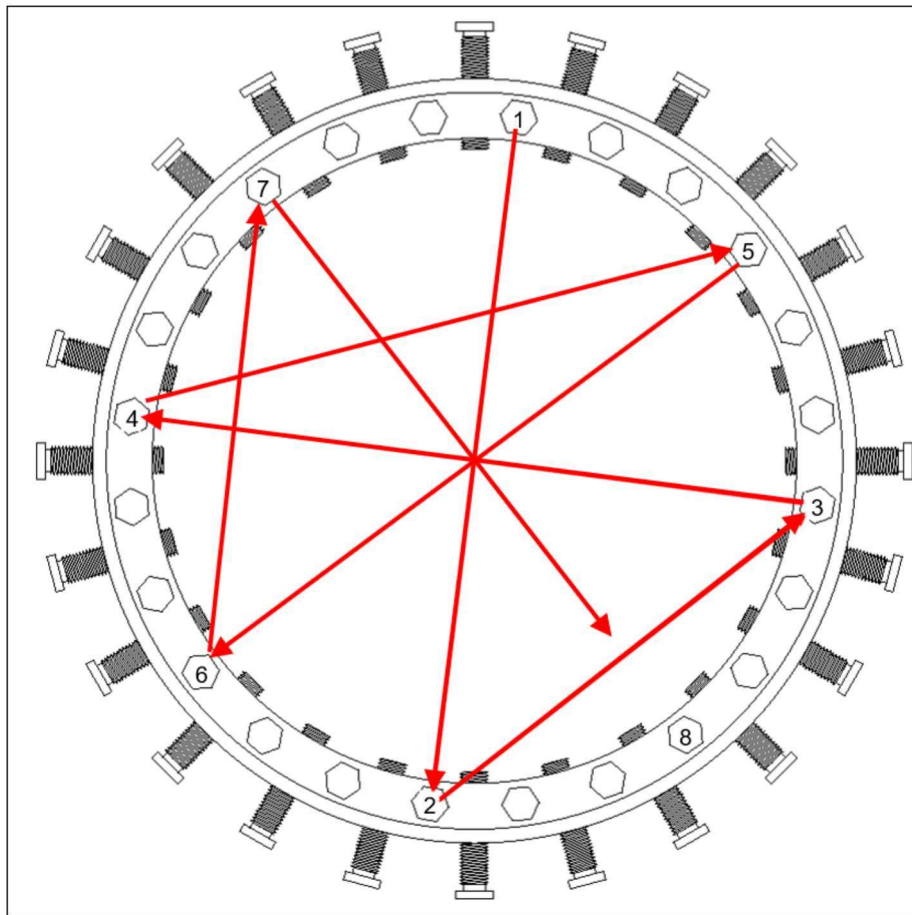
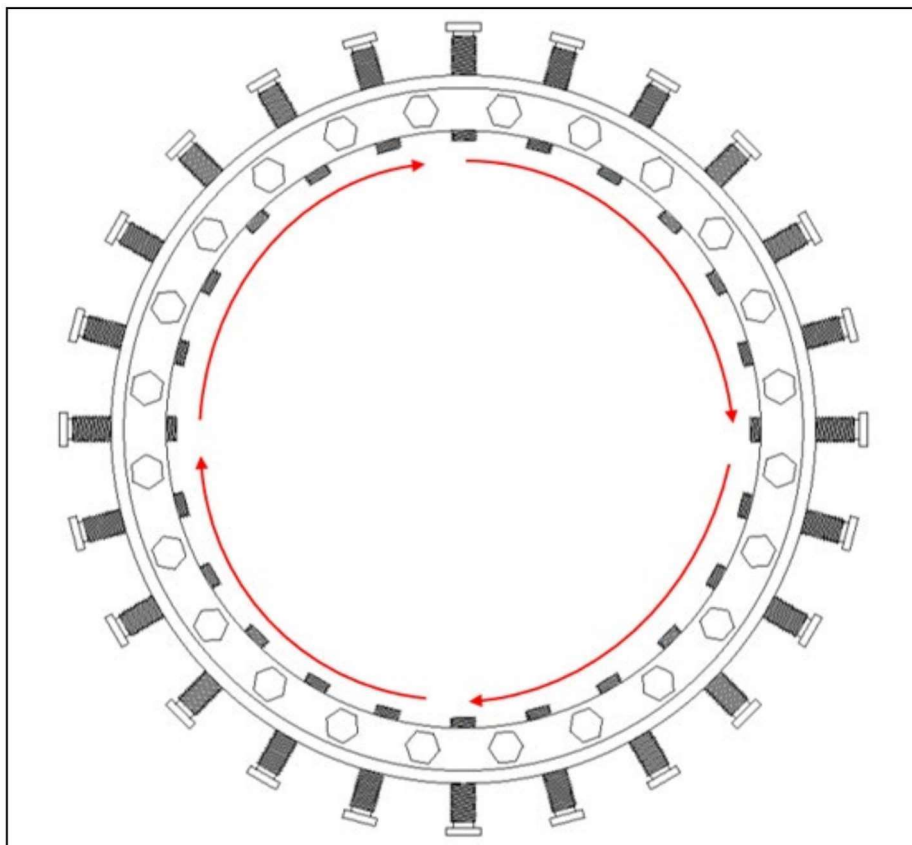

Figure 5
Figure 6
10. Torque the thrust screws one at a time in a repeated crisscrossed star sequence that matches Figure 5. The first time through the sequence, tighten the screws to 25% of the minimum torque. The second time through, tighten the screws to 50% torque. The third time through, tighten the screws to 100% torque. Then, follow a circular tightening sequence that matches Figure 6, at 100% torque, until the thrust screws are unable to continue spinning.